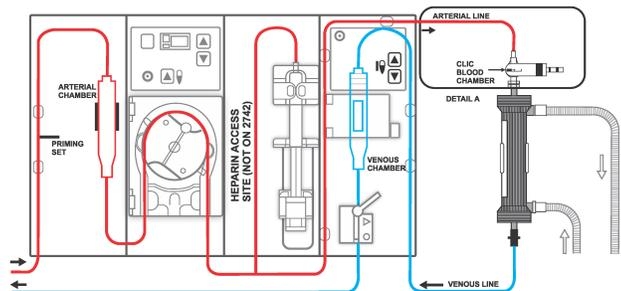

Figure 3: Bloodline Routing Configuration
3. Typical bloodline routing configuration is shown in Figure 3.